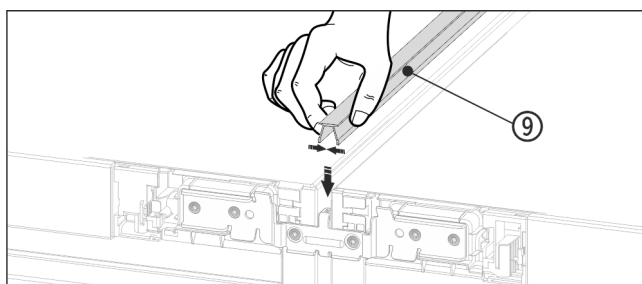

Fig. 20
- On the top press the short cover strip Fig. 20 (9) into the horizontal gap.